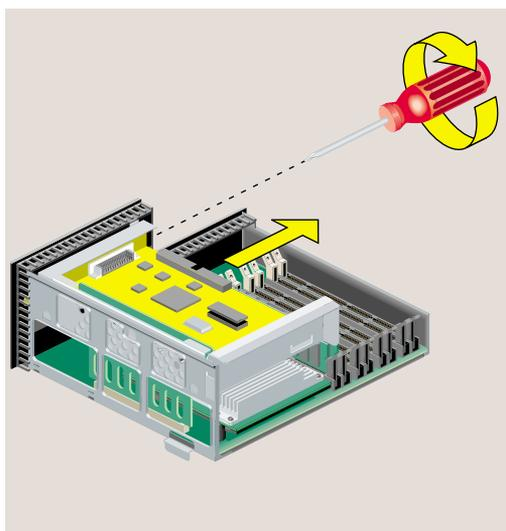

Figure 2-27 Removing the Screw That Secures the PCI Board
1. Remove the screw that secures the PCI board (Figure 2-27).